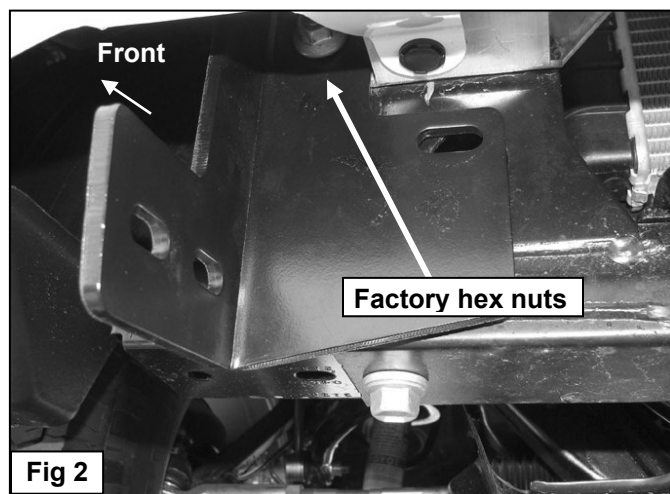

Fig 2
3. Select the passenger side frame mounting bracket. Slide the Bracket over the (2) threaded studs. Secure the Bracket to the studs with the factory hex nuts, **(Figures 2)**. Leave hardware loose.